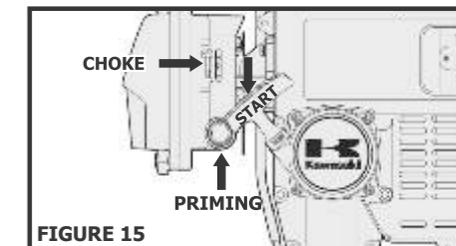

FIGURE 15
- Squeeze the priming bulb approximately 8 times - figure 15 - to inject gasoline in the carburetor;
- Place the choke lever in the closed position (I/I) - figure 15;
- Softly pull the start cord until resistance is felt, then yank firmly to start the engine (Figure 15). After the engine starts return the choke lever to the open position (| | |) allowing the engine to operate normally.